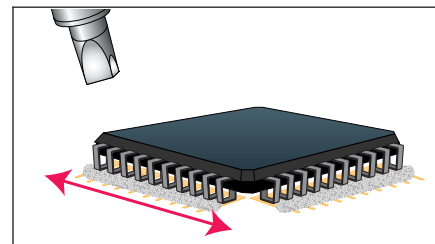

Figure 3 Pre-dry Paste
6. Direct hot air over solder paste/component termination at a distance of 2.5 cm to pre-dry solder paste. (See Figure 3.)